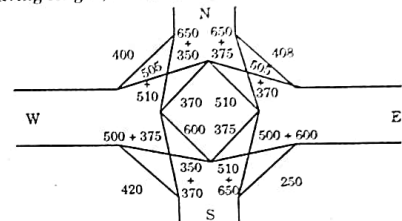

Fig. 3. Traffic negotiating a rotary.
- The traffic from the four approaches negotiating through the roundabout is illustrated in Fig. 3.